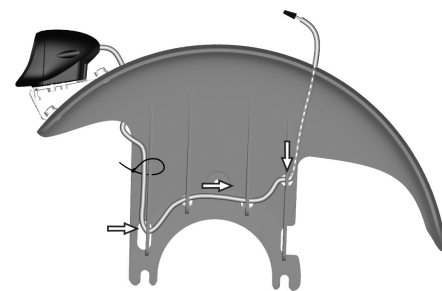

Figure 460. Pull the cable out of the slots and fasten it with a cable tie, then position the end of the lights cable up the hole through the fender.
2. Assemble the cable on the inside of the front fender running it through the slots and using a cable tie, then position the end of the lights cable up the hole through the fender. See fig.460.